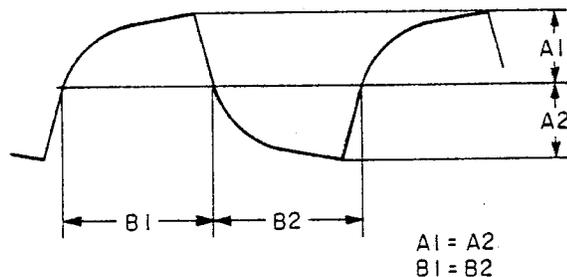

Fig. 3
- Adjust VC-1 so that the positive and negative part of waveform is equal as shown in Fig. 3.